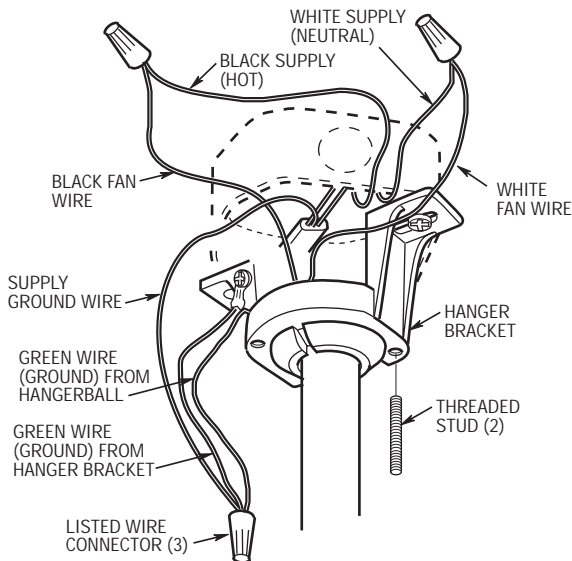

Figure 10
- 10. Connect the green grounding lead from the hanger ball and the green grounding lead from the hanger bracket to the grounding conductor of supply (this may be a bare wire or wire with green colored insulation). Securely connect wires with wire connector supplied. (Figure 10).
- 11. Securely connect the fan motor white wire to the supply white (neutral) wire using wire connector supplied (Figure 10). Securely connect the fan motor black wire to the supply black (hot) wire using wire connector supplied (Figure 10). After connections have been made, turn leads upward and carefully push leads into the outlet box.
- 12. Screw the two threaded studs (supplied) into the tapped holes in the hanger bracket (Figure 10).